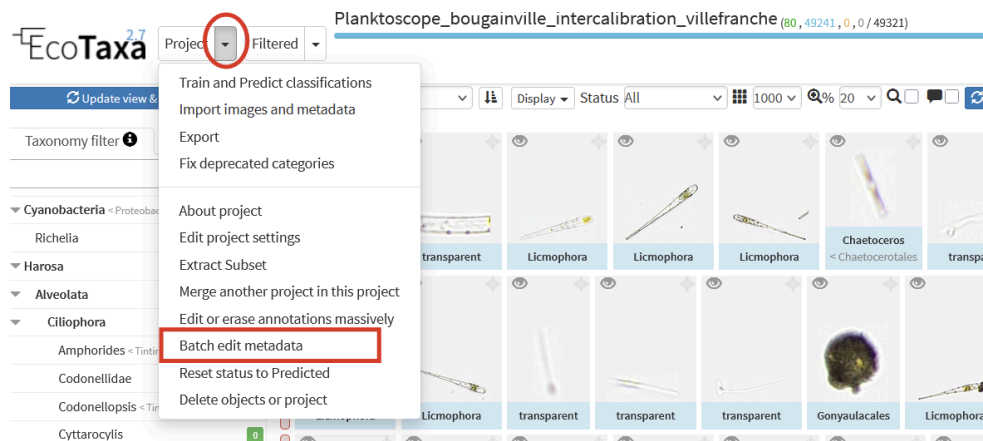

Figure 4: Batch edit metadata for the project
1. click on : **Project > Batch edit metadata** (Fig.4)